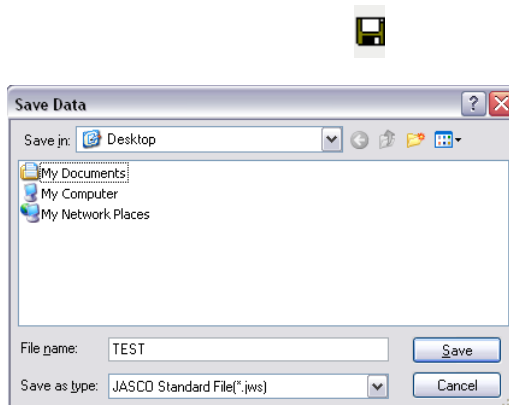

Figure 4.12 [Save Data] dialog box
- (2) Select a location to save the spectrum clicking the arrow at extreme right in the [Save in] box (in Figure. 4.12, “Desktop” is selected).
- (3) Input a filename in the [Filename] text box. The extension (the letters appearing after “.”) need not be entered. The output file is saved as a .jws format file.
- (4) Clicking the <OK> button saves the spectrum to disk (in the example shown the filename is “TEST”).
**Note (1):** When the measurement is interrupted by clicking the <Yes> button, the acquired data can be saved as a .jws file. When the <No > button is clicked, the acquired data cannot be saved.
**Note (2):** Refer to Section 3.1.1.5 for how to use the auto saving data function.